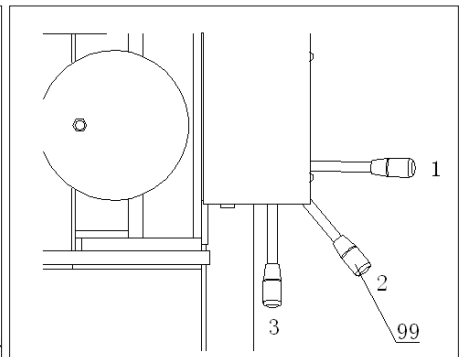

Fig.13
- 3 positions for the handle lever of selector valve: When it is in position 1, the piston rod is retracting; When it is in position 2, the piston rod is stopping moving; When it is in position 3, the piston rod is extending. Fig.13